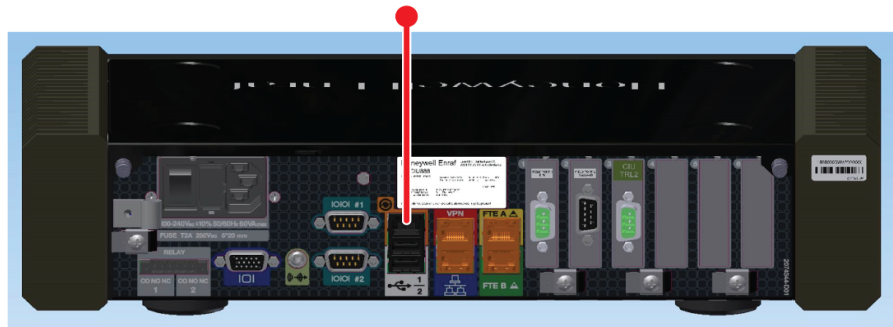

FIGURE 5-1
- The primary CIU 888 and the secondary CIU 888 must be linked through their Sync Link ports using a Cat. 5 Ethernet cable (patch or crossover). The Sync Link port is located at the back of the CIU 888 (see FIGURE 5-1).